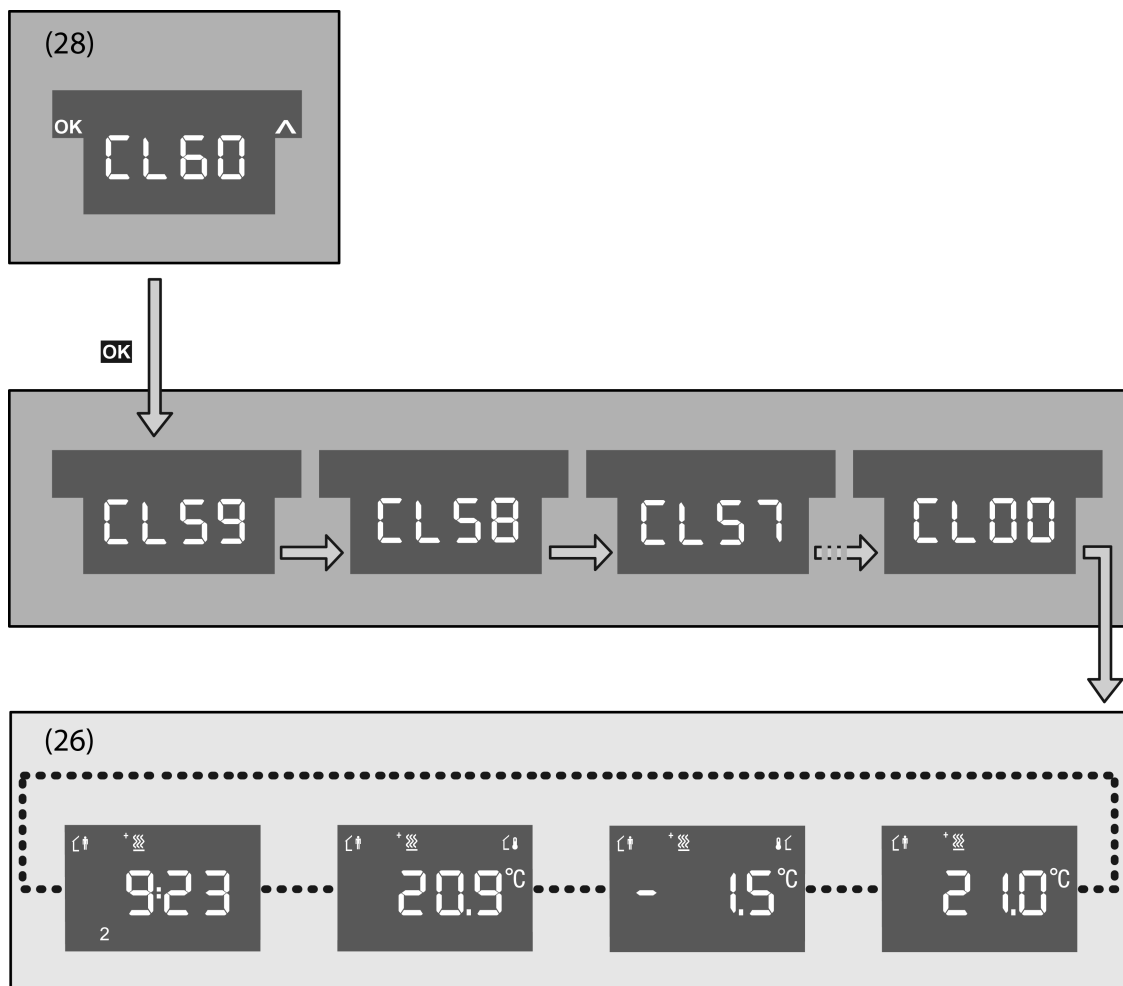

Figure 10: Submenu of the cleaning function
- Press the right display button **▲** to select the menu item **CL60** (28) for the Cleaning function, assuming that this menu item has not already been selected (Figure 10).